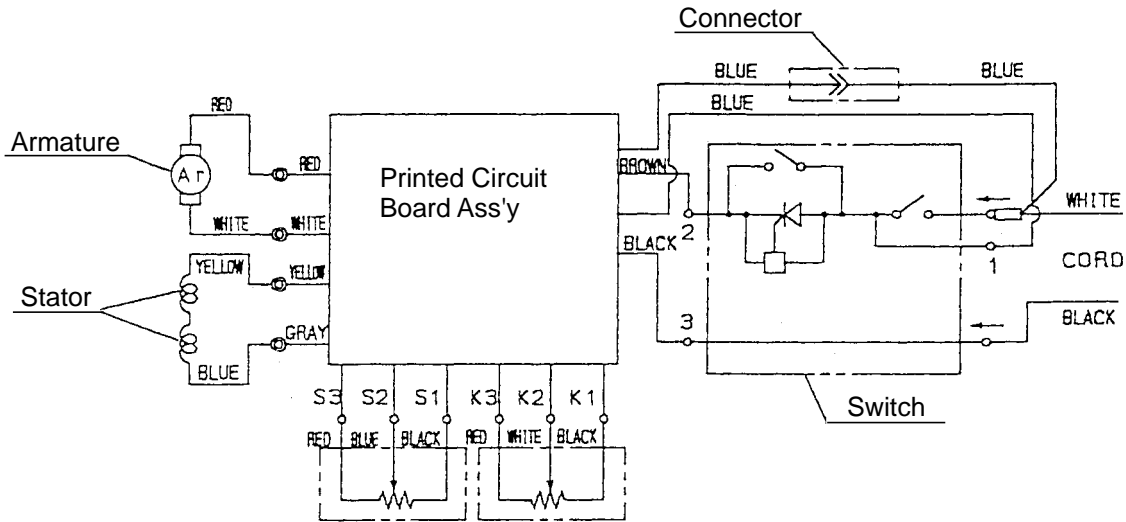

Fig. 19
(1) Reassembly of the power supply unit (Figs. 19 and 20)